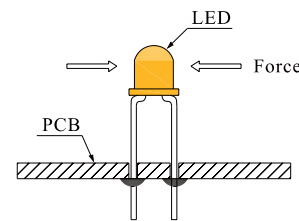

Fig. 9
- After soldering or other high-temperature assembly, allow the LED to cool down to 50°C before applying outside force (Fig. 9). In general, avoid placing excess force on the LED to avoid damage. For any questions please consult with LuckyLight representative for proper handling procedures.